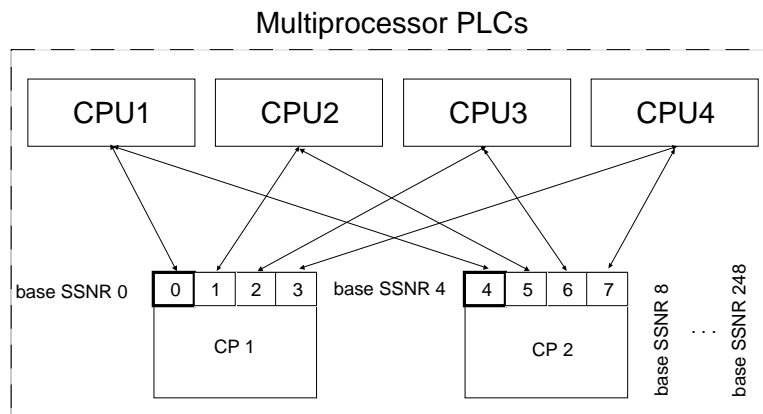

Fig. 4.3 Interface Addressing with a Multiprocessor PLC
**This data exchange is only possible using the base interface number of the CP (see Fig. 4.3). R In the multiprocessor mode, data exchange via I/Os is only possible with CPU 1 (other CPUs have no access to the base interface).**
The grouping of pages into four for the CP is only necessary with the multiprocessor PLCs to prevent the page numbers overlapping which would result in double addressing (refer to Fig. 4.3).
In the multiprocessor PLCs, the assignment of CPU and page number is as illustrated in Fig. 4.3.